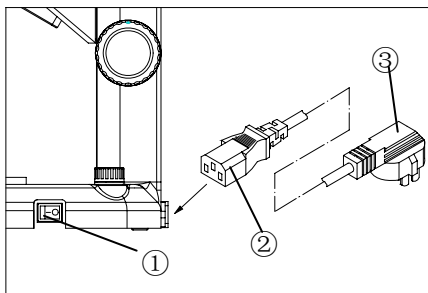

Fig.6
2.2.4 Connecting the power cord (Fig.6)